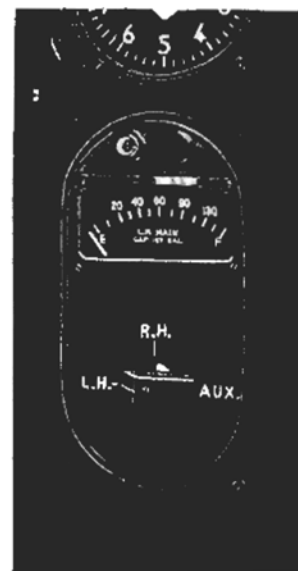

Figure 3—Fuel Level Gauge
3. *Fuel Level Gauge.* (Figure 3).—Electrical. Registers quantity of fuel in each tank separately by using a three-position selector switch.